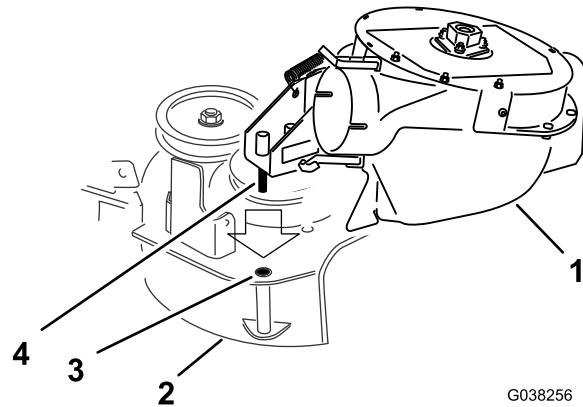

Figure 27
1. Align the pivot pin on the blower with the pivot-pin hole in the mower deck (Figure 27).
2. Lower the blower and slide the pivot pin into the pivot hole (Figure 27).